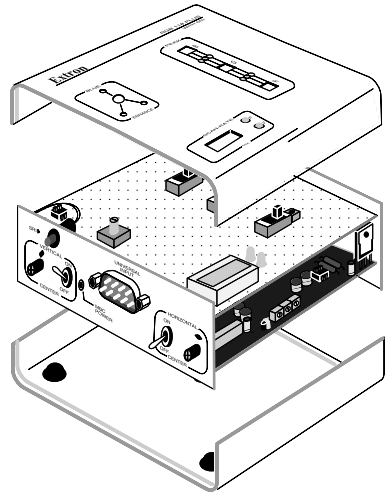

Figure 2
To view the horizontal scan frequency, hold the RGB 118 PLUS so the LCD readout is on a horizontal plane (normal viewing) as shown in Figure 2. When the red Horizontal (H) LED turns on, push and hold the red SRI button in until a readout is obtained.